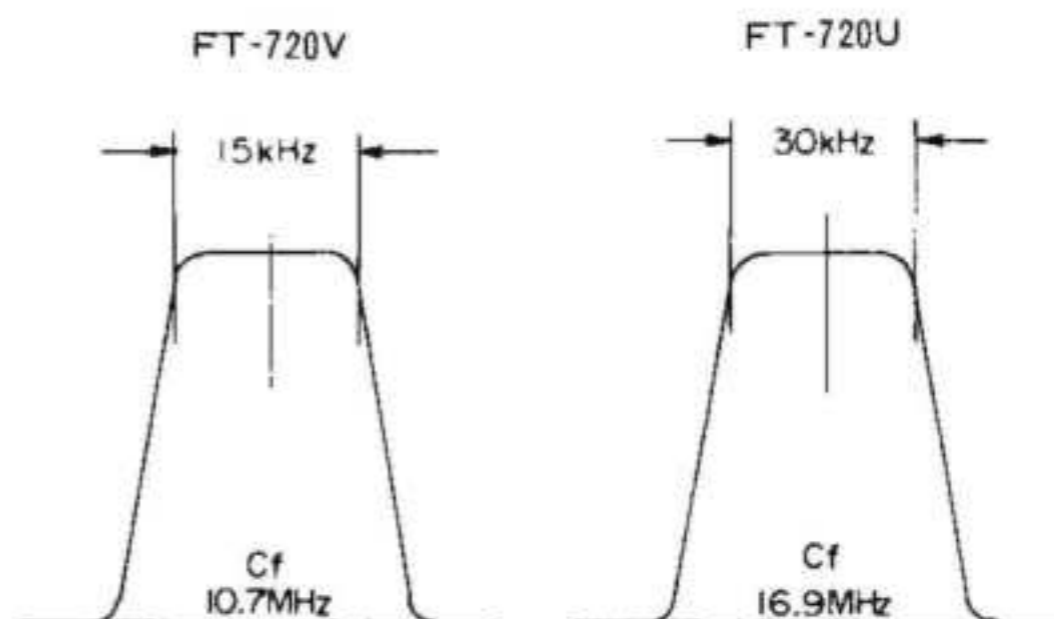

Figure 1
- c) Adjust the core of  $T_{1003}$  for maximum deflection on the scope, then adjust  $T_{1001}$  and  $T_{1002}$  so that the display shown in Figure 1 is obtained. Remove the clip lead connected to the base of  $Q_{1005}$ .